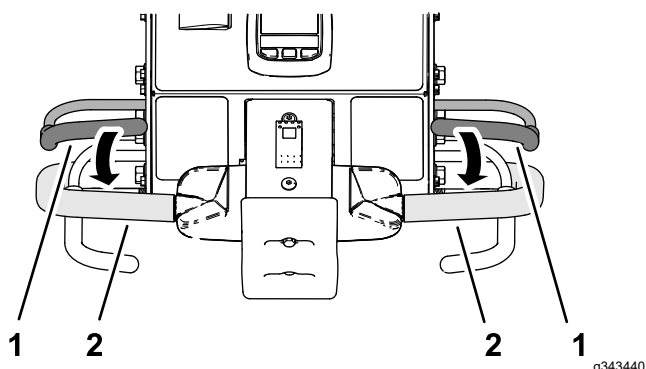

Figure 100
3. Grasp the left or right handlebar and the operator-presence bail (Figure 100), and squeeze the bail to the handle.